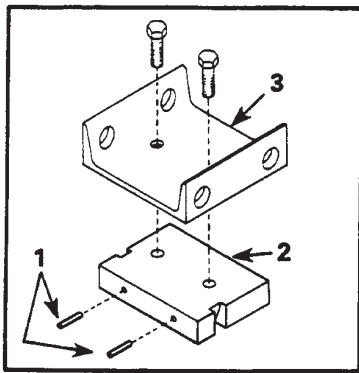

FIG. 1
1. Drive the two roll pins (FIG. 1, Item 1) into the top plate (FIG. 1, Item 2) until the roll pins "bottom out".
2. Using the two 1/2" cap screws, securely attach the ram mounting channel (FIG. 1, Item 3) and top plate (FIG. 1, Item 2) to the ram.